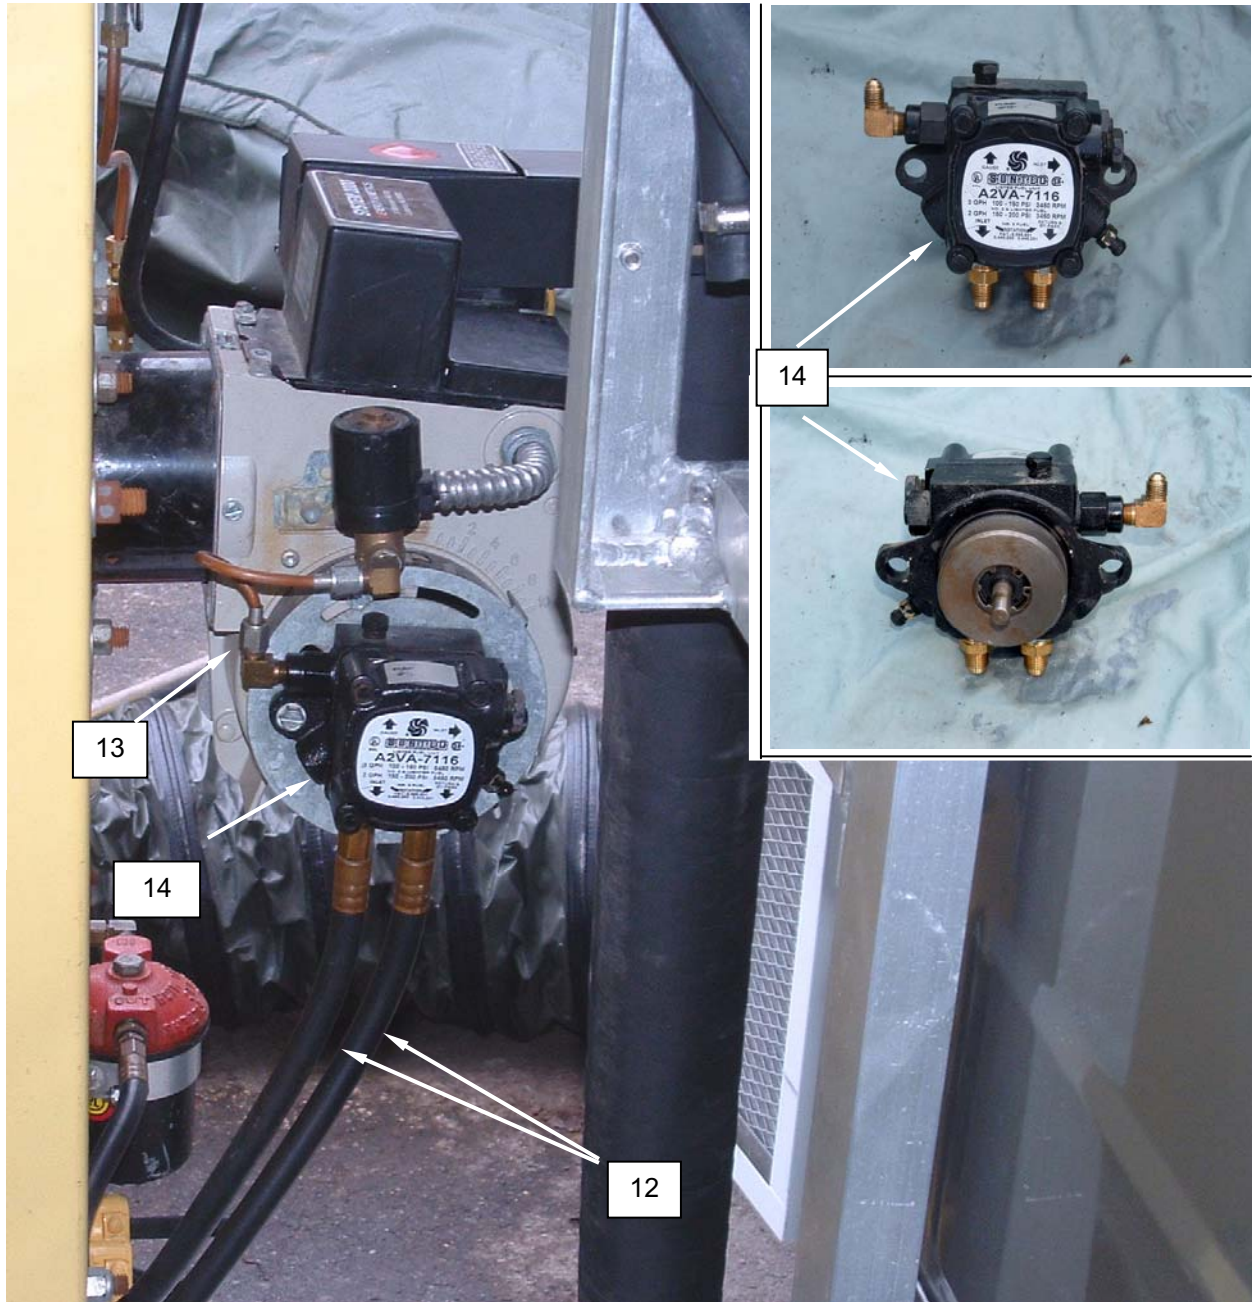

Figure 6. Replace the Fuel Pump.
2. Tag and disconnect fuel pump supply and return hoses (**Figure 6, Item 12**).
3. Loosen the compression nut retaining the copper fuel pipe (**Figure 6, Item 13**) to the fuel pump (**Figure 6, Item 13**).
4. Remove the screws retaining the fuel pump (**Figure 6, Item 14**) to the burner and remove the fuel pump.
5. Ensure the fuel pump coupling is in place and install the replacement fuel pump (**Figure 6, Item 14**). Retain with screws.
6. Install the copper fuel pipe (**Figure 6, Item 13**) to the fuel pump (**Figure 6, Item 14**) and tighten compression nuts.
7. Install the fuel supply and return hoses (**Figure 6, Item 12**) as tagged and tighten.